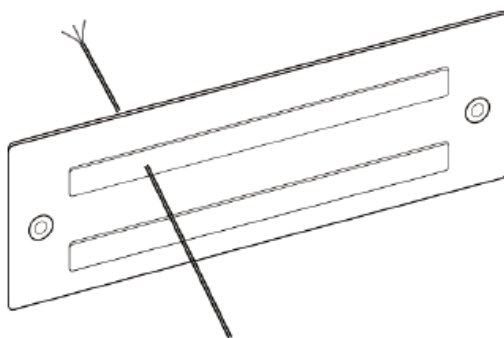

Figure 16 Schematic Diagram of a Feeding the Audio Output Cable Through the Protective Terminal Cover
- a. Strip one end of the prepared audio output cable jacket by 10mm, and feed the cable through the protective cover of the power amplifier, as shown in Figure 16.
- c. Feed the other end of the audio output cable through the ZS-2000M protective cover of the terminal. Refer to Figure 16.